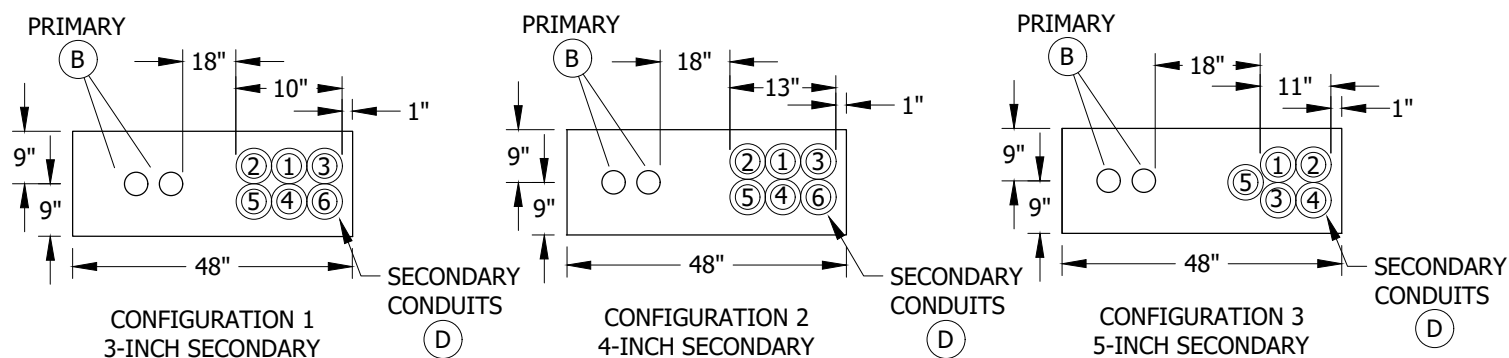

FIGURE 2
- (A) 1-INCH EARTH IN THE BOTTOM OF THE TRENCH IS REQUIRED TO PREVENT DAMAGE FROM ROCKS, SAGS, AND POCKETS.
- (B) PLACE ALL PRIMARY AND SECONDARY CONDUITS WITHIN THE PAD OPENING AS SHOWN IN FIGURES 2 & 3. TERMINATE PRIMARY AND SECONDARY CONDUITS FLUSH WITH THE TOP OF THE PAD. DO NOT CUT INTO THE CURVED PORTION OF THE ELBOWS. RADIUS OF CURVATURE IS 36-INCH MINIMUM FOR 3-INCH, 4-INCH AND 5-INCH CONDUITS.
- (C) THE CONDUIT CONFIGURATION REQUIREMENT BETWEEN TERMINATING POINTS LIMITS THE SECONDARY CONDUIT CONFIGURATION TO 2 WIDE X 3 DEEP OR 3 WIDE X 2 DEEP (NO ONE CONDUIT IS TO BE COMPLETELY SURROUNDED ON ALL FOUR SIDES BY OTHER CONDUITS), USING SPACERS AND 1 SACK CONCRETE SLURRY BACKFILL. CONDUITS MAY ALSO BE INSTALLED SIDE BY SIDE ON THE BOTTOM OF THE TRENCH WITHOUT SPACERS OR CONCRETE SLURRY (FOUR CONDUITS MAX.). IN THE TRANSITION AREA WHERE THE CONDUITS FROM THE BOTTOM OF THE TRENCH START TOWARD THE SURFACE (THE STRAIGHT PORTION BY THE 90° BEND), SPACERS MAY BE REQUIRED TO ALLOW THE 90° BENDS TO ENTER STRAIGHT INTO THE PAD OPENING. AT THE SURFACE POINT, THE CONDUITS MAY BE BUNDLED TOGETHER. USE SDG&E APPROVED BASE, SHADING AND BACKFILL.